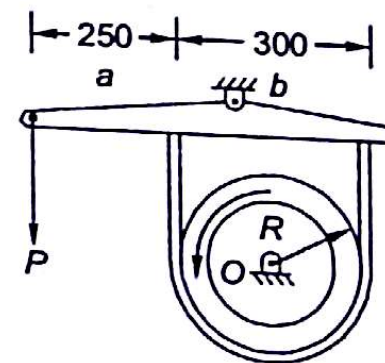

Fig. 7.11
7.7 A brake drum of radius 150 mm is rotating in anticlockwise direction when a force $P = 60$ N is applied as shown in Fig. 7.11. If the coefficient of kinetic friction is 0.4, determine the moment of friction forces applied to the drum, when $a = 250$ mm and $b = 300$ mm.